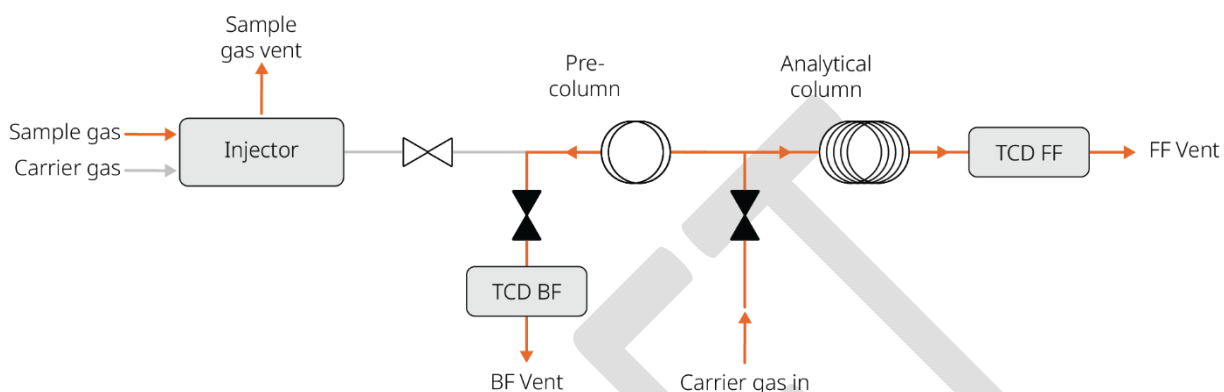

Figure 7. Backflush to detector.
After a certain time, the flow is switched to the backflush (BF) state. The 'carrier gas'-valve in between the columns is opened and the gas flows backwards in the pre-column and simultaneously keeps on flowing forward in the analytical column. The backward flow of the pre-column is led to the backflush TCD and to the backflush vent, see Figure 7. In this way, unwanted components that move slowly through the pre-column are prevented from entering the analytical column; so, in principle the pre-column backflush works as a filter. Note that separated sample components in the pre-column will group again during back-flush and consequently result in a single so-called back-flush peak at the backflush detector.